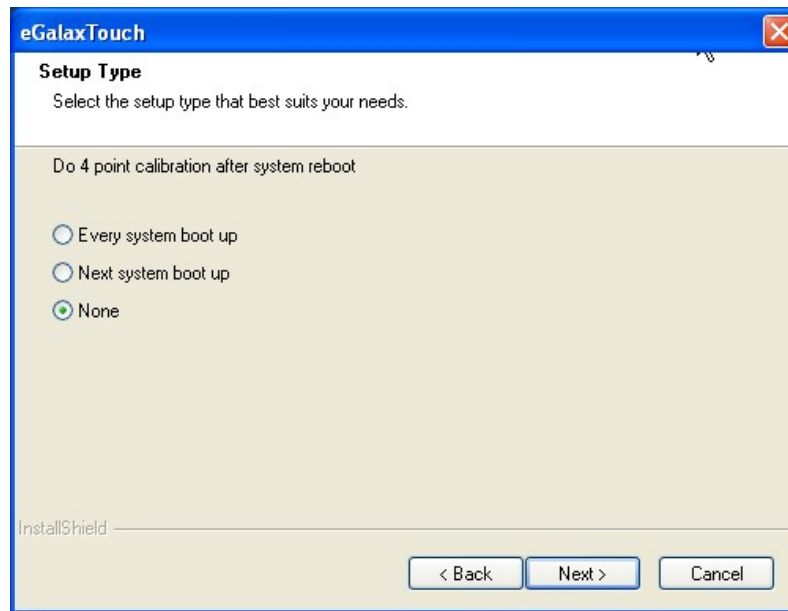

Figure 6-38: Setup Type – 4-Point Calibration
Step 6: The screen in **Figure 6-38** appears. Select the 4-point calibration option, and click **Next** to continue.